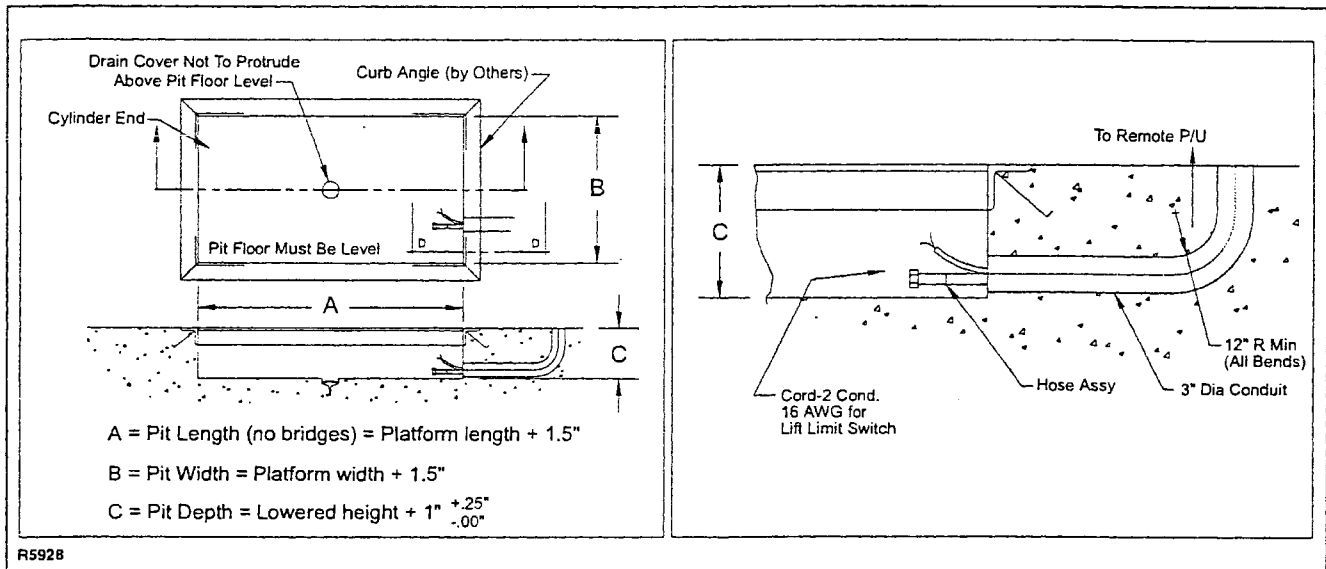

Figure 2-1. Pit Installation
1. Install pit as shown in Figure 2-1.